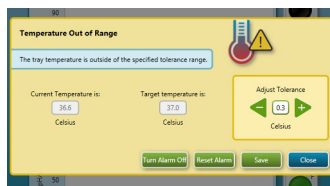

Figure 16. Temperature alarm window
- b **Temperature alarm:** When enabled, the XFp Analyzer will automatically notify users (**Figure 16** on page 30) when the tray temperature of the XFp Analyzer is out of the acceptable range as specified by the temperature tolerance above (only while running an assay on the XFp Analyzer).